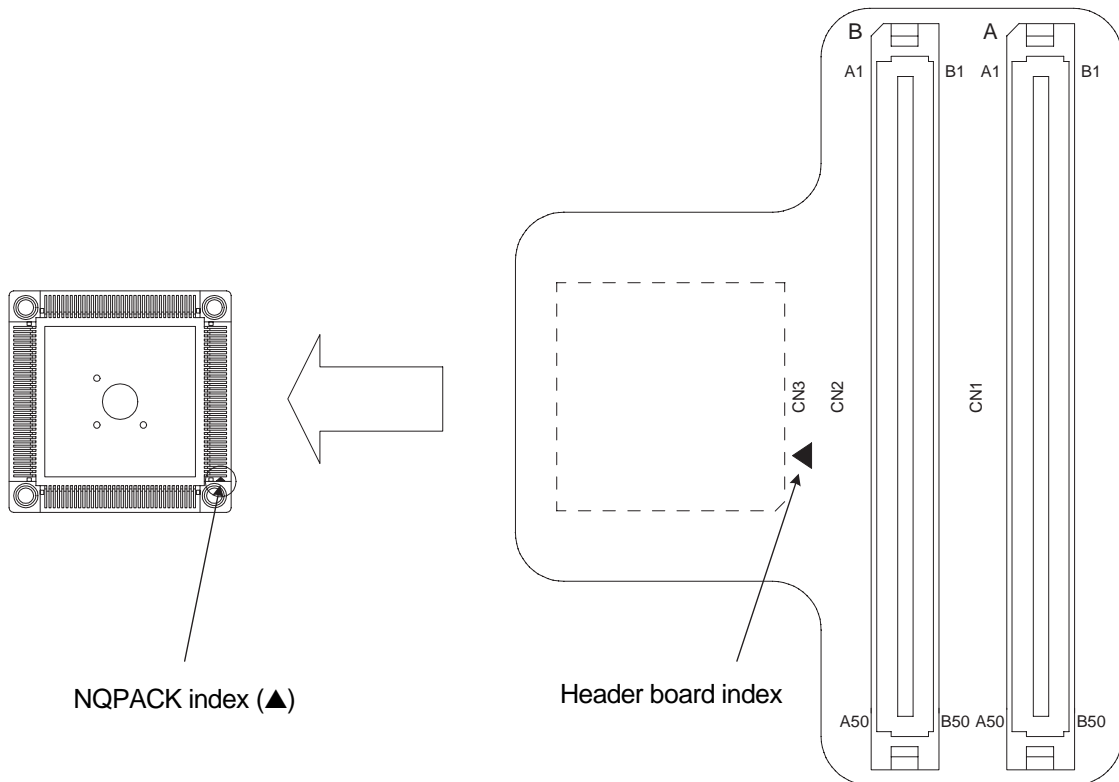

Figure 3 Index Position
1. To connect the header board to the user system, match the index mark (▲) on the NQPACK mounted on the user system with the index mark (▼) on the header board and then insert it. Next, secure the header board with four screws. (See Figure 3.)